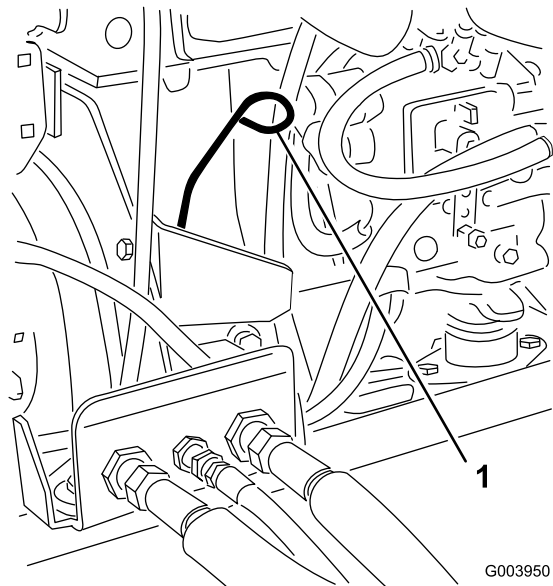

Figure 30
3. Remove the dipstick, wipe it clean, and install it (Figure 30).